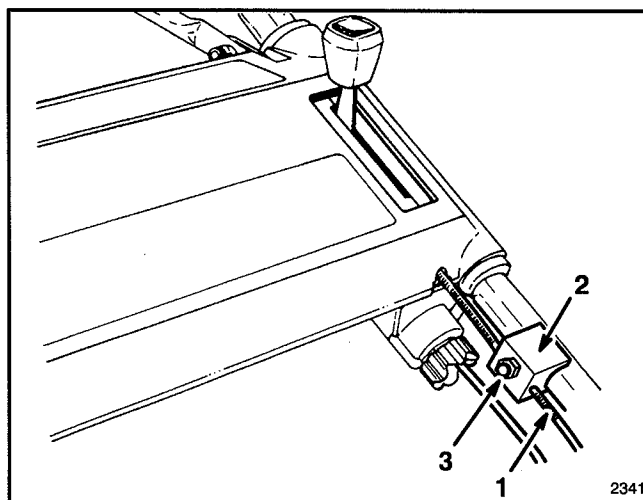

Figure 19
3. ADJUST CABLE (Fig. 19) – Loosen the nut on the cable bracket. Insert a 1/8" object between the brake control bar and handle. Pull down on the cable conduit until all slack is removed from the wire. Then tighten the nut on cable bracket.